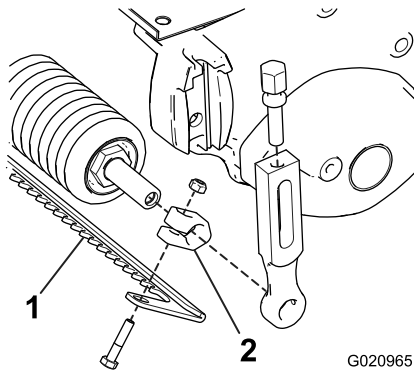

Figure 2
- Insert a shaft clamp onto each end of the roller shaft (Figure 2).
- Position the scraper between the front roller and the cutting unit as shown in Figure 2.
- Loosely install the scraper to each clamp with a bolt and nut (Figure 2). Do not tighten.